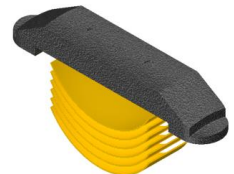

Fig. 5
L-2.10) Install drag blocks (22) and drag block springs (3) into drag block body (18). Compress blocks with drag block assembly tool (T1). **NOTE₁₁**: Install six (6ea) springs per drag block (Fig. 5).